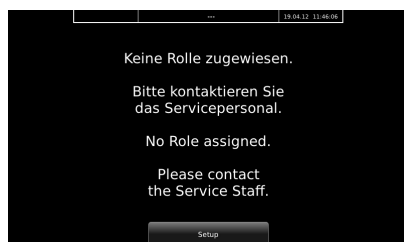

Figure 6-2: Setup screen
- ▶ After approx. 20 seconds, the *Setup* screen (Figure 6-2) appears.